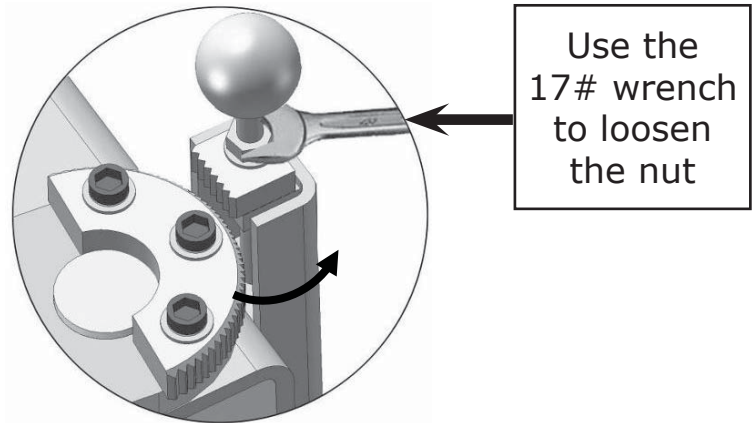

Fig. 24
2. Lowering the carriages down to the lowest position, then use the 17# wrench to loosen the nut of arm lock (See Fig. 24).